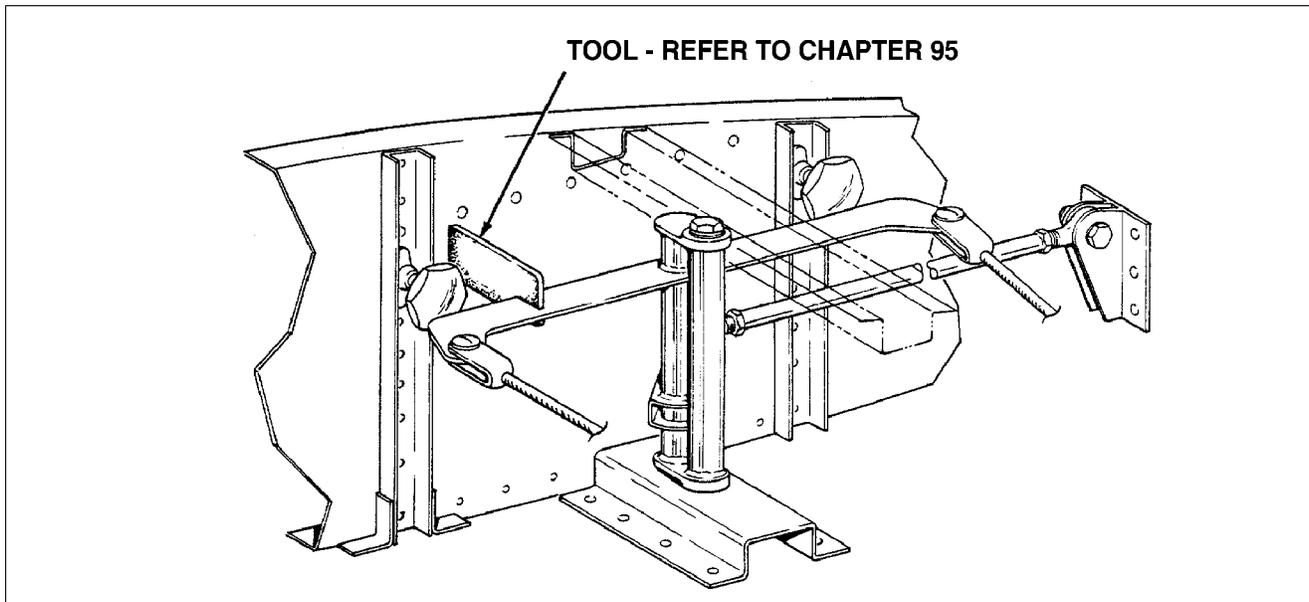

Figure 27-9. Bellcrank Rigging
- H. Aileron Controls Rigging and Adjustment. (Refer to Figures 27-9 and 27-10)
- (1) Removing access plate to each aileron bellcrank located on underside of wing, forward of inboard end of aileron, by removing plate attaching screws.
- (2) Affix a bellcrank rigging tool between the forward arm of each bellcrank and the adjacent rib as shown in Figure 27-9. (Tool may be fabricated from dimensions given in Chapter 95.)